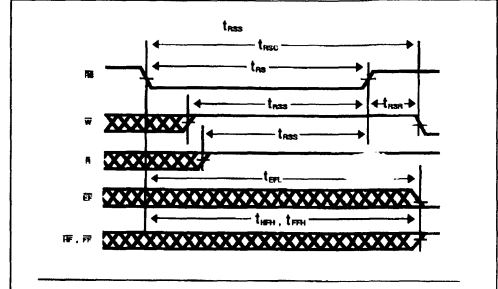

Figure 2 : Reset.
Reset occurs whenever the Reset ( $\overline{\text{RS}}$ ) input is taken to a low state. Reset returns both internal read and write pointers to the first location. A reset is required after power-up before a write operation can be enacted. Both the Read Enable (R) and Write Enable (W) inputs must be in the high state during the period shown in figure 2 (i.e. trss before the rise edge of RS) and should not change until trsr after the rise time of the leading edge of RS. The Half-Full flag (HF) will be reset to high after Reset (RS).